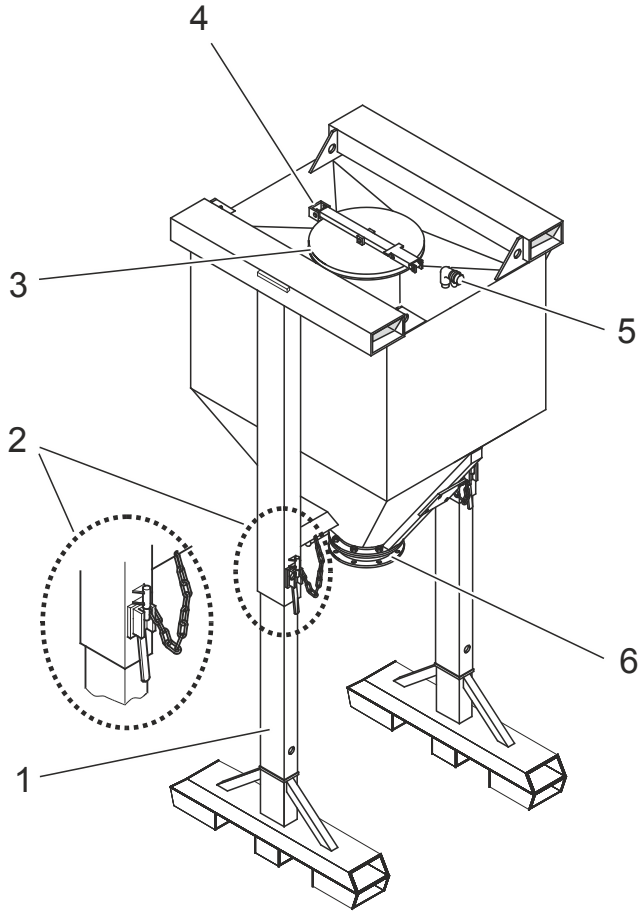

Fig 6 – Maintenance parts
- Apply lubricant to the domed cover's hinge (Fig 6, 4) and the silo flap valve (Fig 6, 6).
- Check that the domed cover's rubber gasket (Fig 6, 3) is undamaged and sits correctly.
- Check that the venting socket (Fig 6, 5) is clear over its whole length.
- Check that the tube feet (Fig 6, 1), socket pins, and their locks (Fig 6, 2) run smoothly.